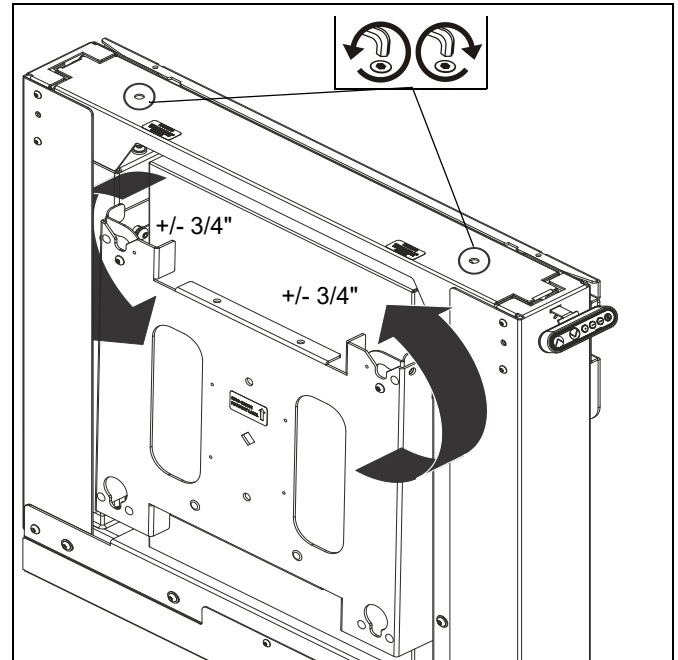

Figure 39
1. Adjust leveling adjustment screws through access holes to level mount as desired $\pm 3/4"$. (See Figure 39)